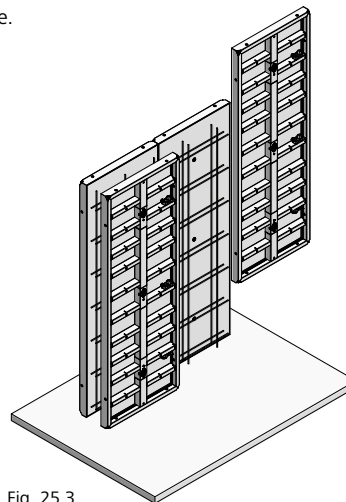

Fig. 25.3
2. Place final-formwork panel (Fig. 25.3).